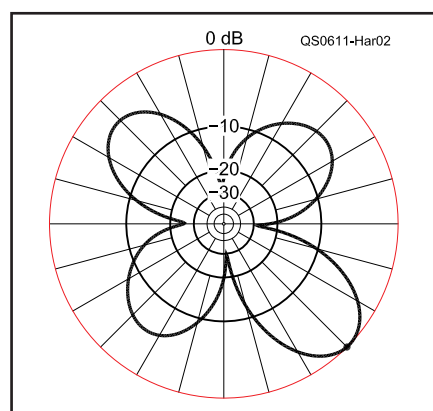
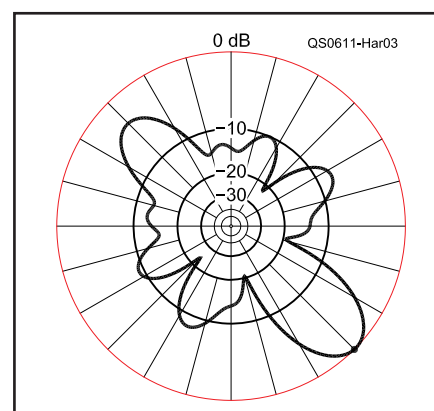

Figure 2 — Azimuth pattern of 300 foot loop on 14.2 MHz at elevation of 25°. Peak gain is 12.5 dBi.
Figure 3 — Azimuth pattern of 320 foot loop on 14.2 MHz at elevation of 20°. Peak gain is 13.3 dBi.
A good rule of thumb is to start with a loop about  $5\lambda$  at the highest desired DX operating frequency. Therefore, using the usual formula for a  $1\lambda$  loop,  $1005/\text{freq (MHz)}$ , a  $1\lambda$  loop for 18.1 MHz would have a circumference of approximately 56 feet, so our model loop should be about 280 feet in circumference. I then modeled a square loop 40 feet above real/high accuracy ground with dimensions of 70 feet per side.6 After some experimentation, I found a leg length of 75 feet with the feed source in a corner of the loop would produce the clean cloverleaf pattern shown in Figure 2 on 20 meters, which was what I desired. Any longer leg length would give more gain, but would make the antenna more bi-directional as shown in Figure 3. Such a pattern may meet your needs. What about other shapes and feed points? Table 1 gives a comparison of these, showing circular, square and triangle loops, with the square and triangle loops being fed in the corners (AF) and midway along a leg (CF).